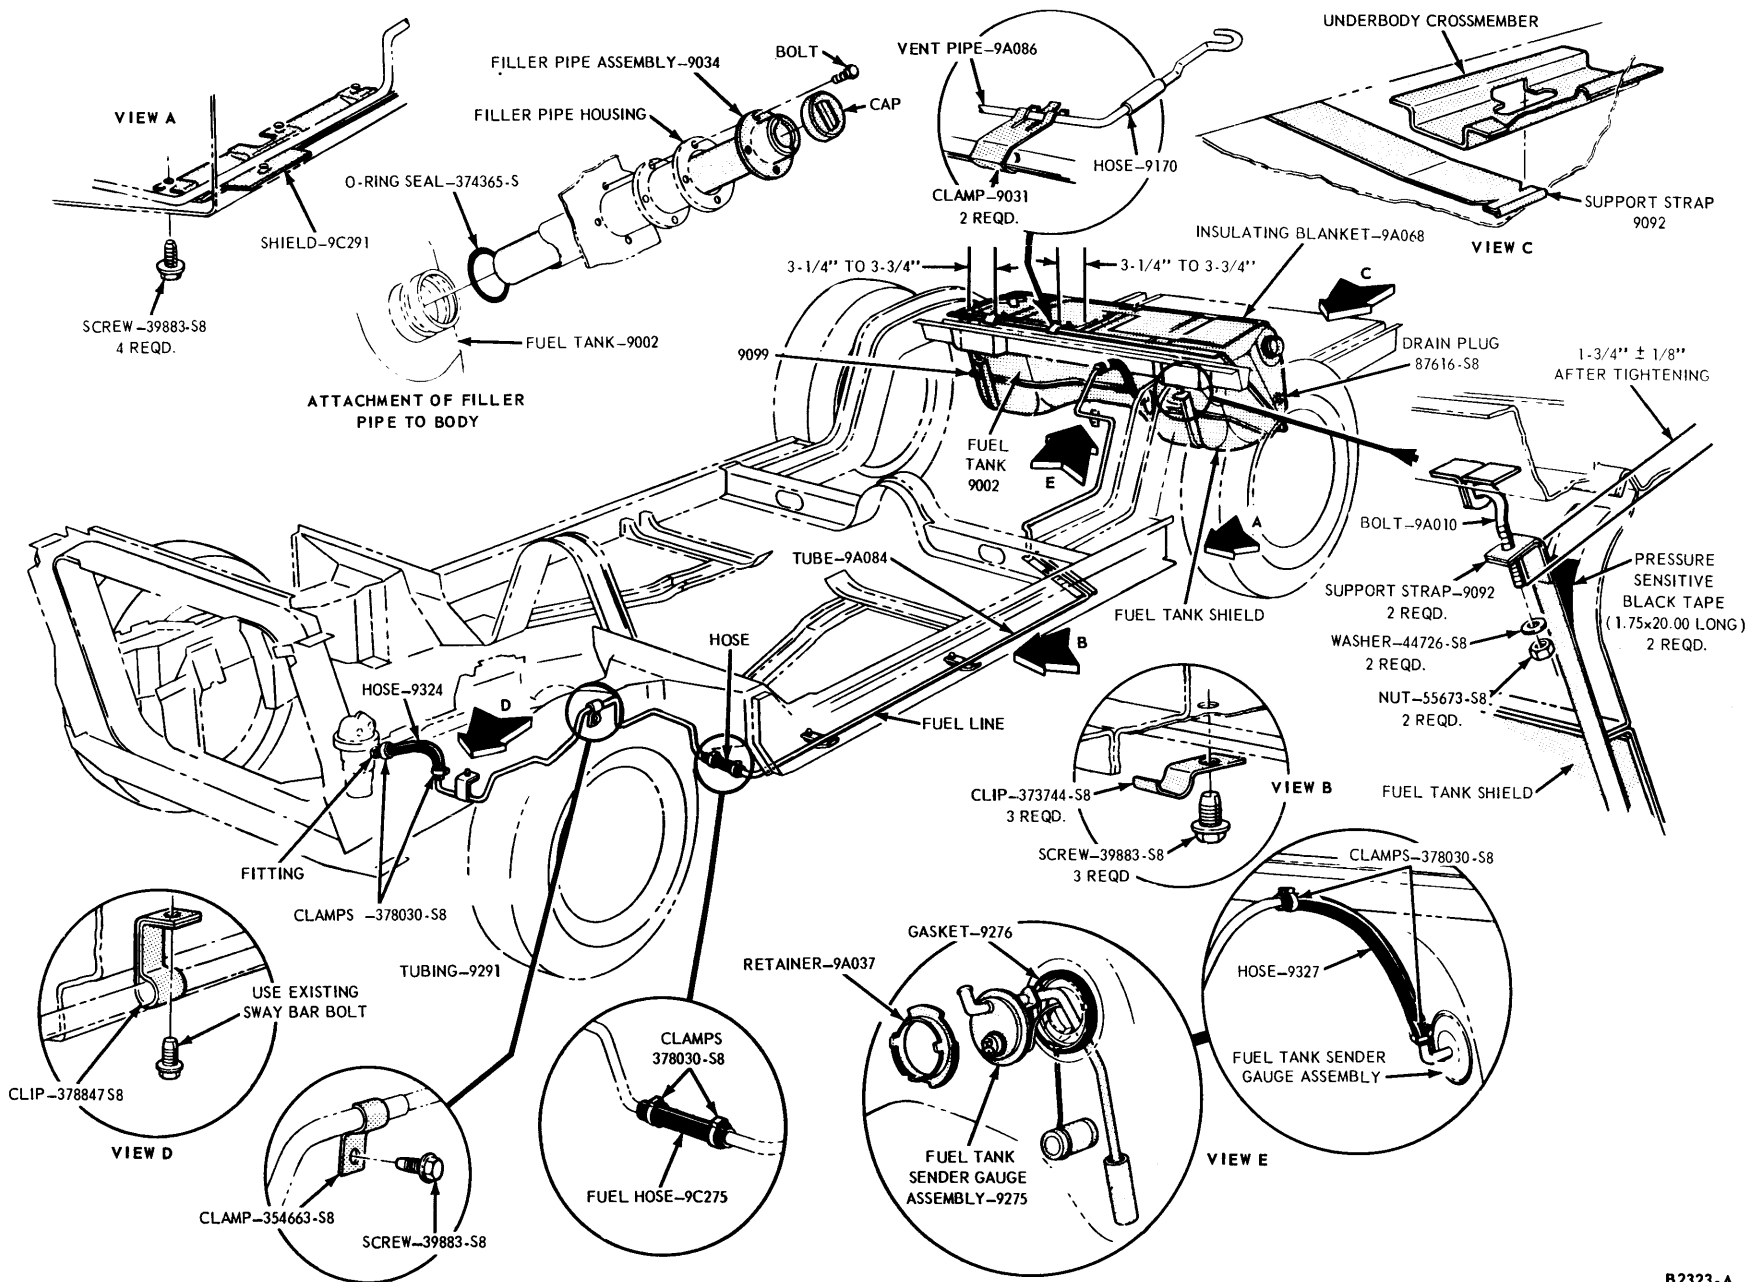

FIG. 1 - Fuel System Installation
1. Refer to Fig. 1. Install a new O-ring seal in the fuel tank.
1. Refer to Fig. 1. Remove the fuel tank filler cap. Drain the fuel from the tank into a suitable container, with the use of a siphon.
1. Refer to Fig. 1. If the retaining strap(s) require replacement, install the flanged end(s) of the new strap(s) in the slot(s) of the underbody member. If necessary, properly position the tank insulating pad.
The various fuel lines are not serviced as assemblies. They must be cut, squared and formed out of rolls of fuel system service tubing and hose material of the specified size (Fig. 1), available at dealerships.